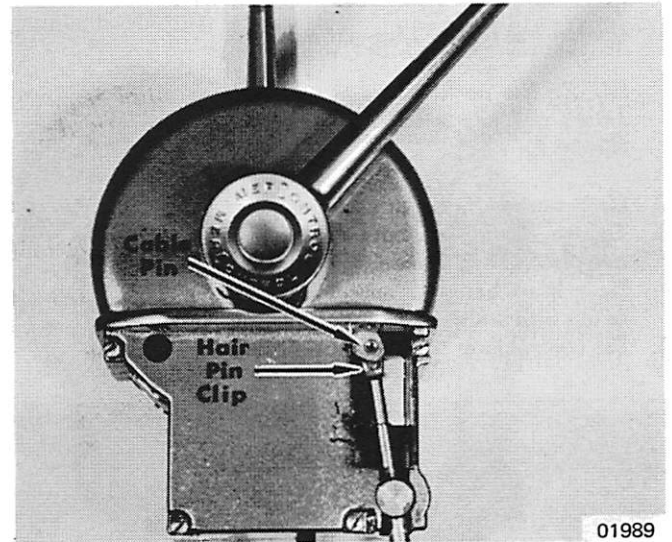

Figure 2. Pins and Clips Location
4. Position control cables in control housing and install control cable pins and hair pin clips. (Figure 2)